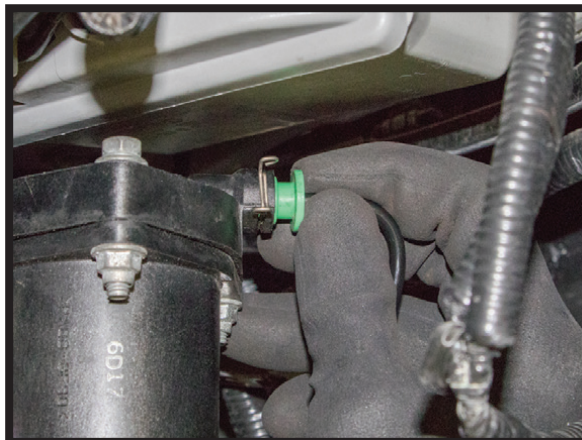

FIGURE 28
6. REINSTALL THE AIR HOSE INTO THE DRYER. (FIGURE 28)